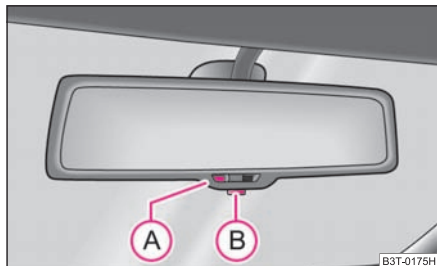

Fig. 60 Automatic dimming interior mirror
- Press the button **(B)** - the warning light lights up **(A)** ⇒ fig. 60.